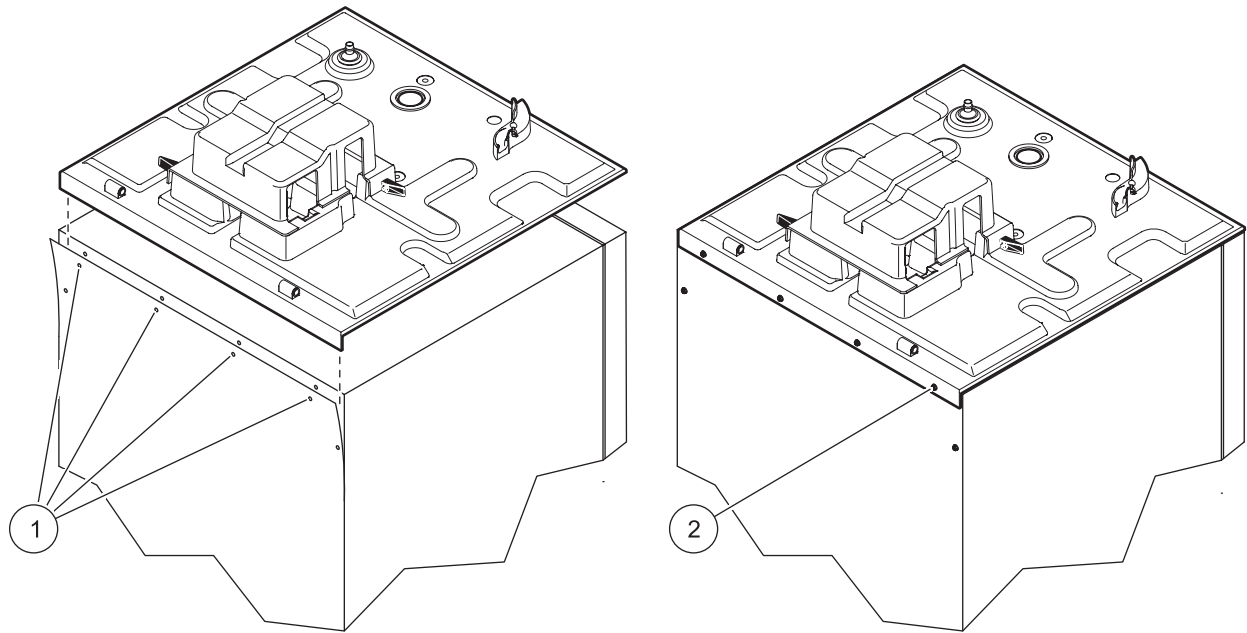

Figure 8 Secure the transition plate to the back panel of refrigerator
5. Remove the screws that secure the back edge of the transition plate from the back of the refrigerator (Figure 8 on page 11). Retain the screws.
3. Slide the back edge of the transition plate between the refrigerator and back panel of the refrigerator (Figure 8).
9. Place the transition plate back on the refrigerator with the back edge of the transition plate on the outside of the back panel (Figure 8). Align the holes in the plate with the holes in the refrigerator. Secure the back edge of the transition plate to the refrigerator with the refrigerator screws.